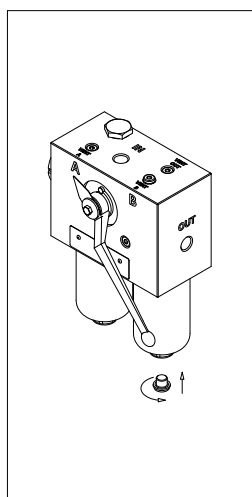

fig. 10
- (Fig. 10) Screw the drain plug in referring to the tightening torque table in paragraph 3